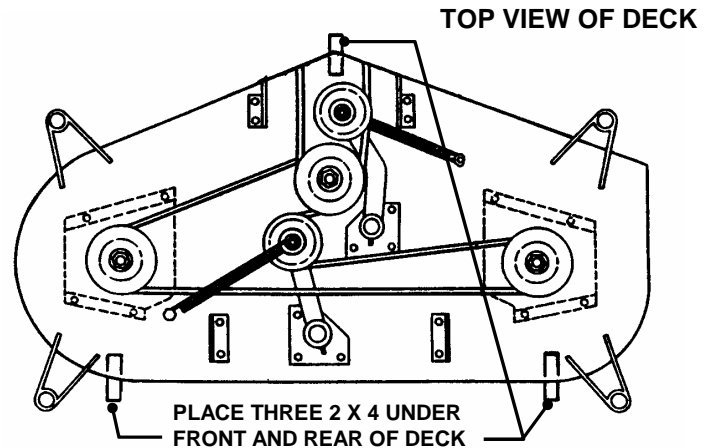

FIGURE 4.6
2. Rotate outside blades so tips are pointed to the sides of deck. See Figure 4.6. Measure the distance from blade tips to floor. If the measurement is within 1/8" from side-to-side, the deck levelness is satisfactory. If the difference from side-to-side is greater than 1/8", continue to next step for adjustment.
3. Place a 2 x 4 piece of wood under the front middle portion of deck. Place one 2 x 4 piece of wood under the rear of deck on both sides behind the two outside blades. See Figure 4.6.